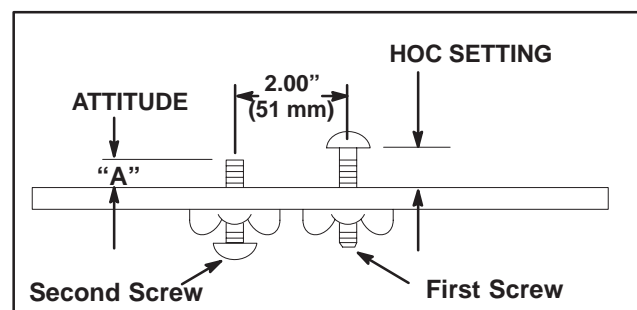

Figure 7
For setting consistent cutting unit attitude, Toro strongly recommends using a two-screw gauge bar, Toro part no. 98-1852 (Fig. 7). The first screw is set for height-of-cut, and the second screw is set for cutting unit attitude. The second screw setting is an easy method of transferring cutting unit attitude to all cutting units on a machine.
1. Using a two-screw gauge bar, Toro Part No. 98-1852, set first screw to desired height-of-cut. This setting is from the bar face to the underside of the screw head (Fig. 7).
2. Using **Table 1**, set the attitude, “A,” for the second screw on the gauge bar. This setting is from the bar face to the end of the screw (Fig. 7).